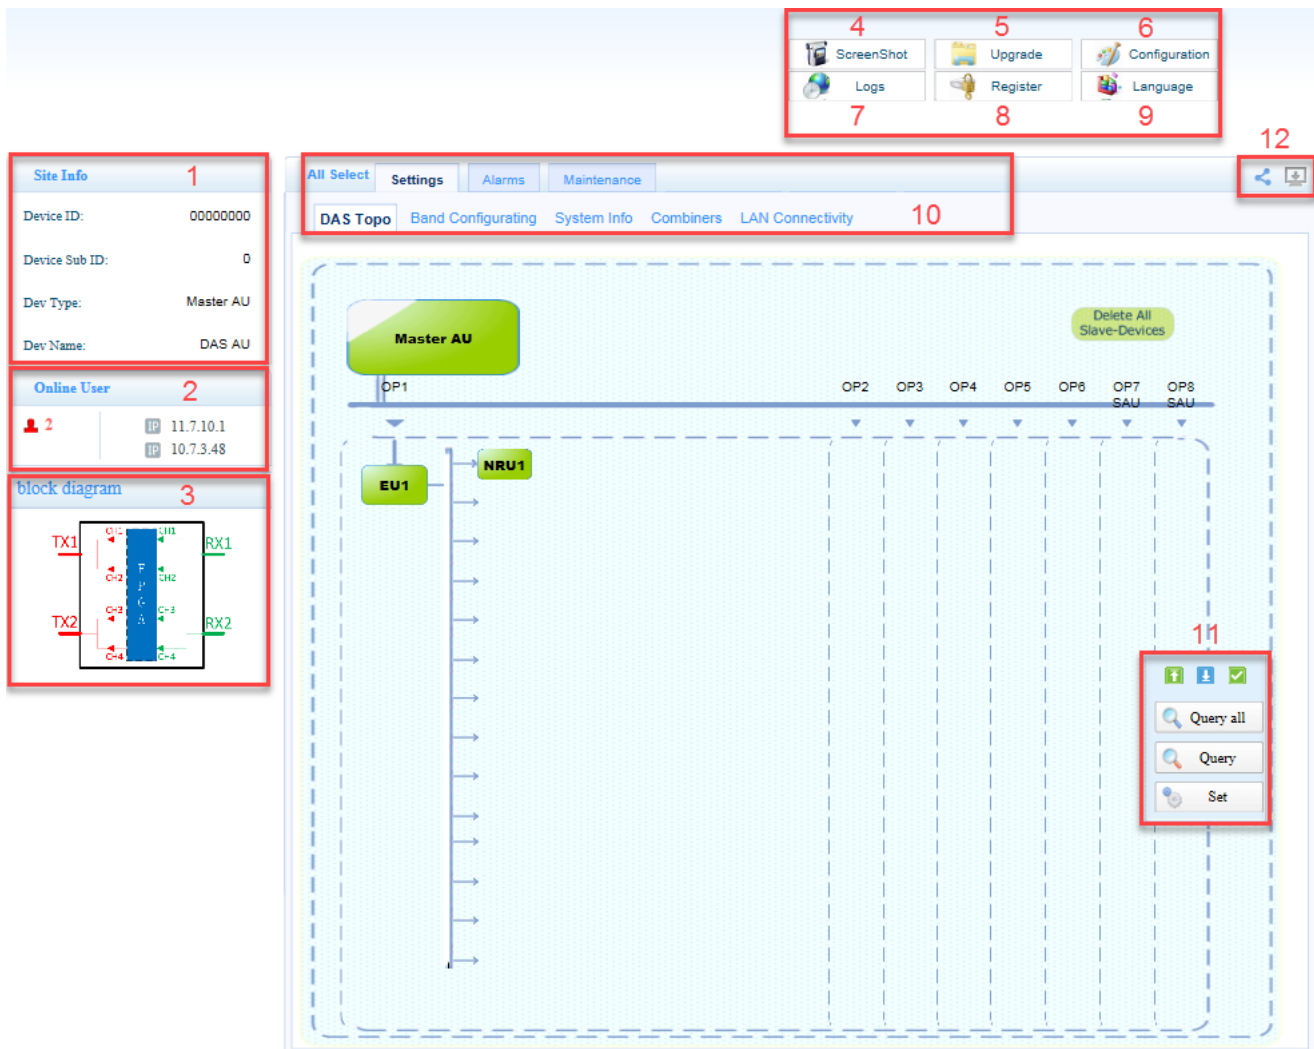

Figure 3-11 WebOMT Homepage
The OMT homepage is shown as Figure 3-11.
The OMT homepage includes buttons, tabs and fields (refer to corresponding numbers in Figure 3-11):
- c) Click **ScreenShot** button. See #4 in Figure 3-11.
- e) Click **Configuration** button. See #6 in Figure 3-11.